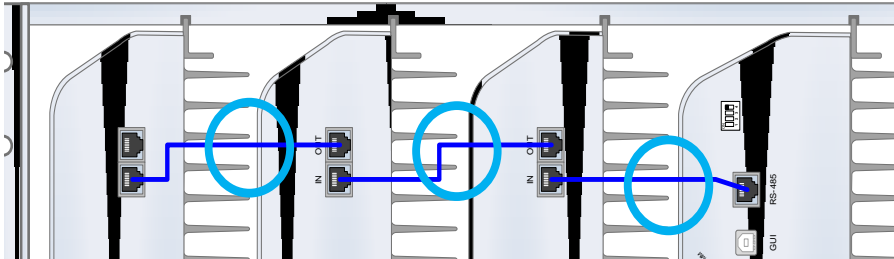

Figure 3-23 Correct RS-485 connection between Master RU and Slave RU or between Slave RUs
- The RS-485 cable connected to master RU should be connected to RS-485 IN port of slave RU. When a slave RU is connected to another slave RU, then the RS-485 cable should be connected from the RS-485 OUT port to the RS-485 IN of the 2nd Slave RU. (Figure 3-23)